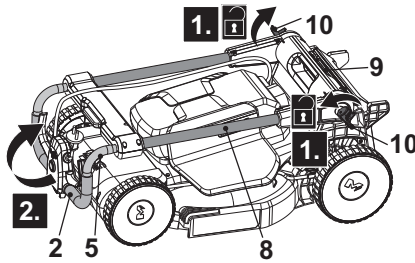

Fig. 1
1. Unfold and loosen the clamp levers (10) anti-clockwise on both sides of the lower handle bar (8), but do not remove them (Fig.1, step 1).
2. Hold the grip handle (2) with one hand and unfold the handle assembly (Fig. 1, step 2). Make sure that the inter-connection cord (18) run on the upper side of the upper handle bar (5) and the lower handle bar (8).